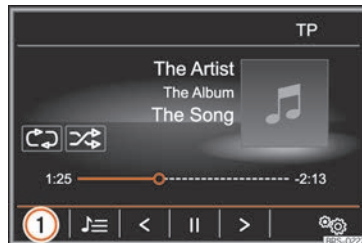

Fig. 208 MEDIA main menu.
- In the MEDIA main menu, press function button »» **Fig. 208 ①** and select **[BT audio]**.